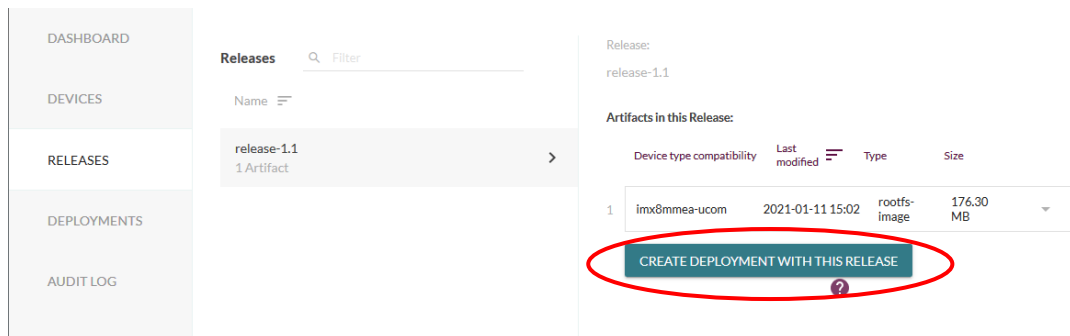

Figure 6 - Create a deployment
3. Once uploaded, create a new deployment as shown in Figure 6.